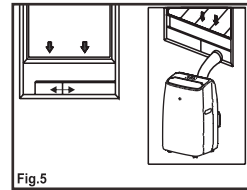

Fig.5
4. Affix the hose outlet into the window slider kit and seal. (Fig. 5 & 6).